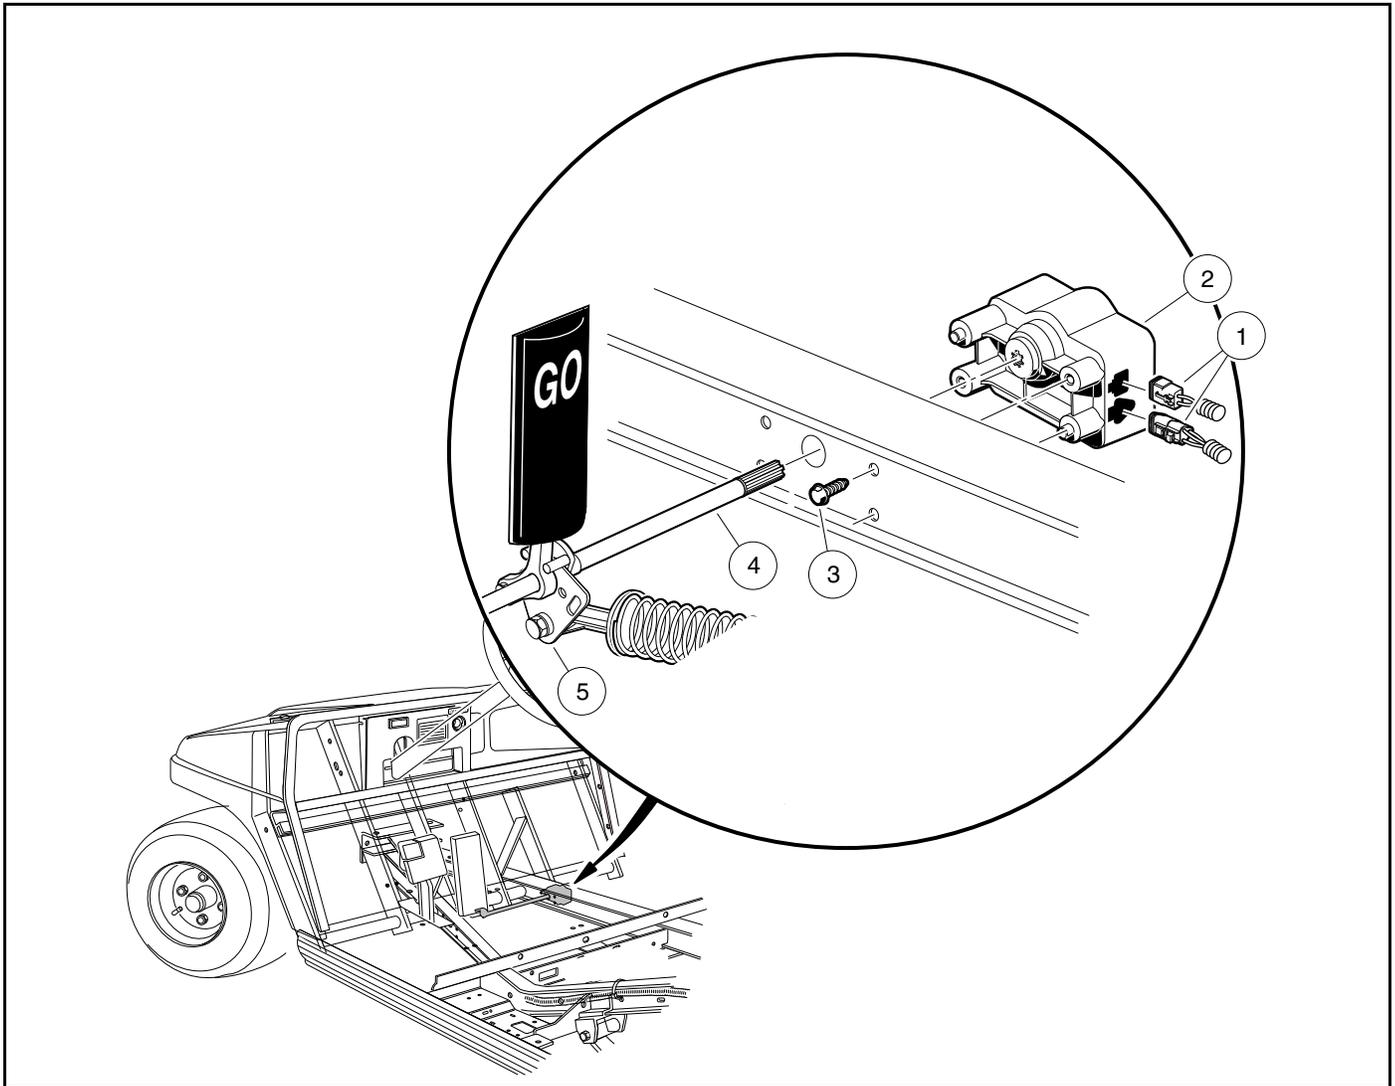

Figure 24-5 Motor Controller Output Regulator (MCOR) Mounting
3. Disconnect the two-pin and three-pin connectors (1) from the MCOR (2) (**Figure 24-5, Page 24-7**).
4. Remove the hex-head screws (3) connecting the MCOR to the frame I-beam.
6. Push the drive bar (4) into the hole in the I-beam to disengage it from the accelerator pivot rod (5).
1. Insert the splined end of the drive bar (4) through the hole in the passenger-side frame I-beam as shown (**Figure 24-5, Page 24-7**).
3. Place the MCOR (2) onto the splined end of the drive bar (**Figure 24-5, Page 24-7**). **See following NOTE.**